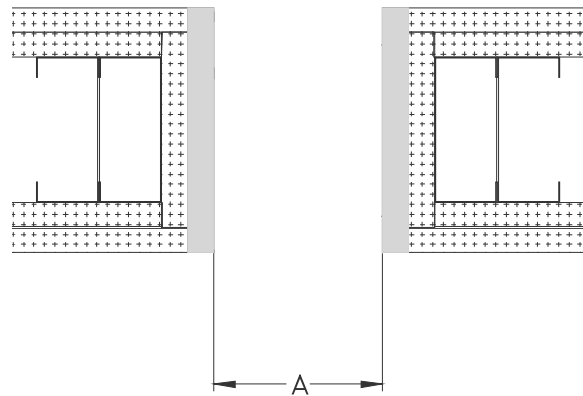

Figure 4
- A. For fire resistant CE Series Joint Covers having a maximum opening width greater than 1 3/8" (thermal), use Cement Board at the joint interface. Balco, Inc. recommends 3/8" Hardiebacker by James Hardie or PermaBase Cement Board by National Gypsum Company in lieu of 5/8" Type X Gypsum at the joint face (depicted in solid gray in Figure 4).